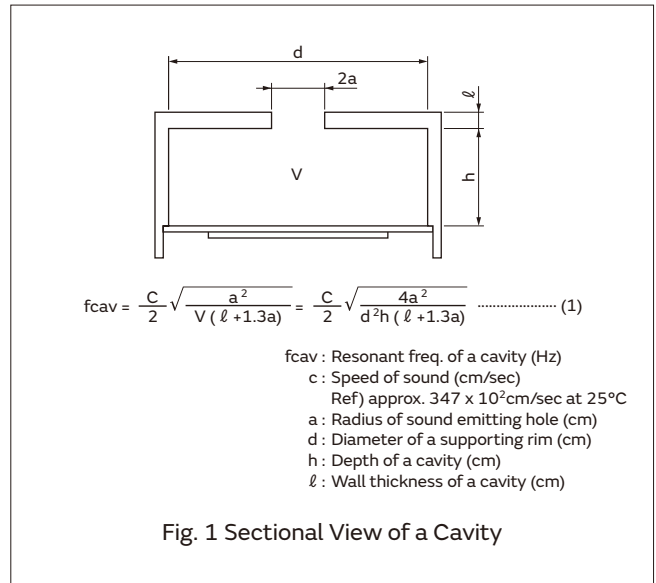

Fig. 1 Sectional View of a Cavity
In general, the piezoelectric diaphragm is installed in a cavity to produce high sound pressure (Fig 1).
The resonant frequency (f_{cav}) of the cavity in Fig. 1 is obtained from Formula (1) (Helmholtz's Formula).